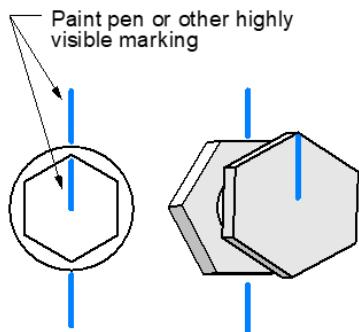

Figure 10-21: 12 o'clock Position –
10. To simplify the liner adjustment, mark the head of the adjustment bolts at the 12 o'clock position with the adjustment bolts tight (Figure 10-21). Mark the plate at the 2 o'clock and 6 o'clock positions, or at the desired adjustment interval. For adjustment procedure, see Section 10.3.9, "Adjusting the Suction Liner: Procedure."